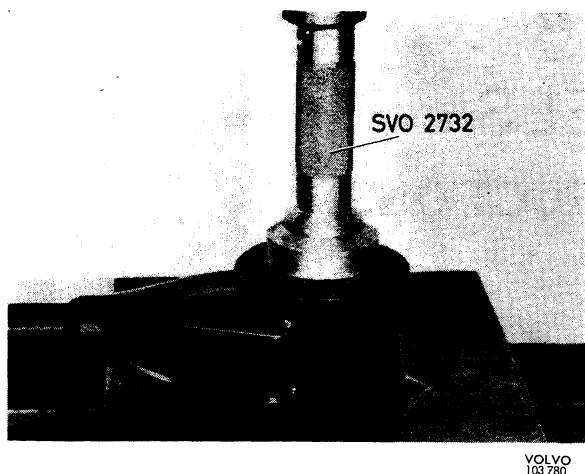

Fig. 7-11. Removing and fitting rear bush on torque rod
3. Press out the rear bush with SVO 2732 (see Fig. 7-11).
5. Press in the rear bush with SVO 2732 (see Fig. 7-11).